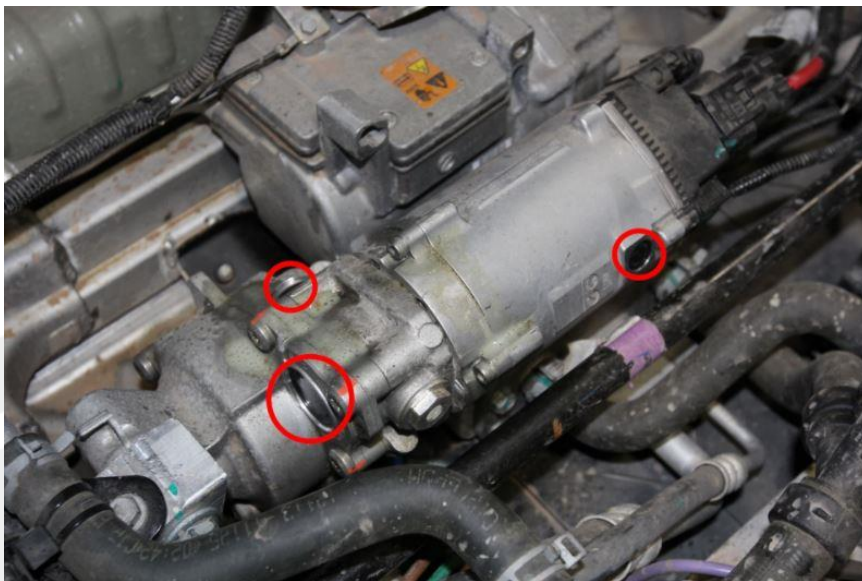

Figure 13
35. Using isopropyl alcohol (IPA) wipes, clean the sealing plugs (x3) on the steering gear (Figure 13). Allow the area to dry for at least 1 minute.